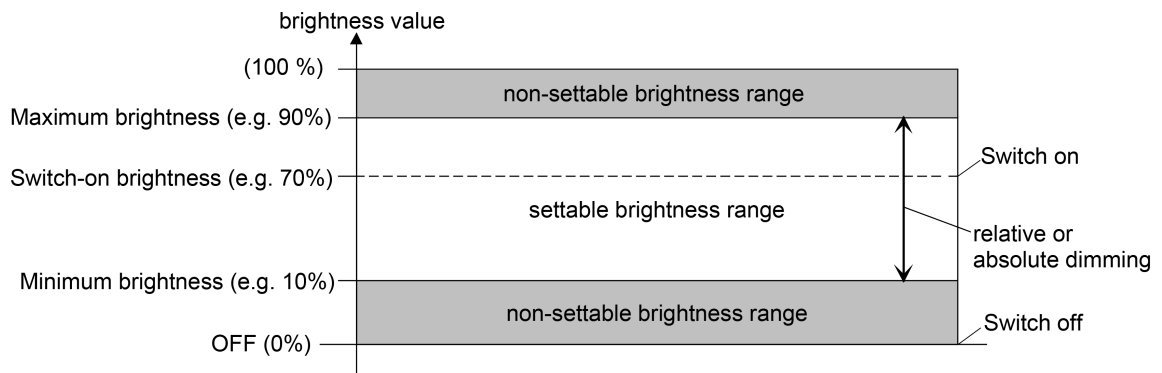

Figure 14: Example of a brightness range with minimum brightness
- Definition of the lower brightness limit with minimum brightness (see figure 14):